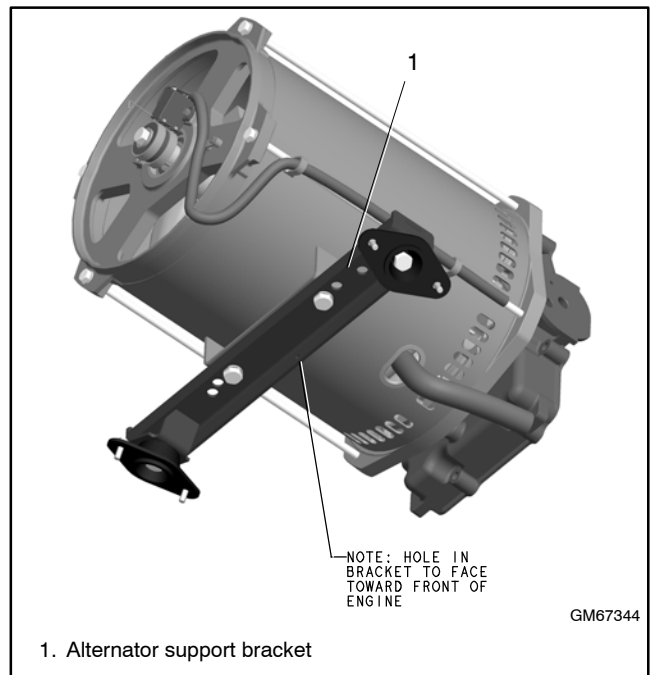

Figure 6-20 Alternator Support Bracket
- a. Re-attach the alternator support bracket to the alternator shell. The hole in the bracket must face the engine. See Figure 6-20.